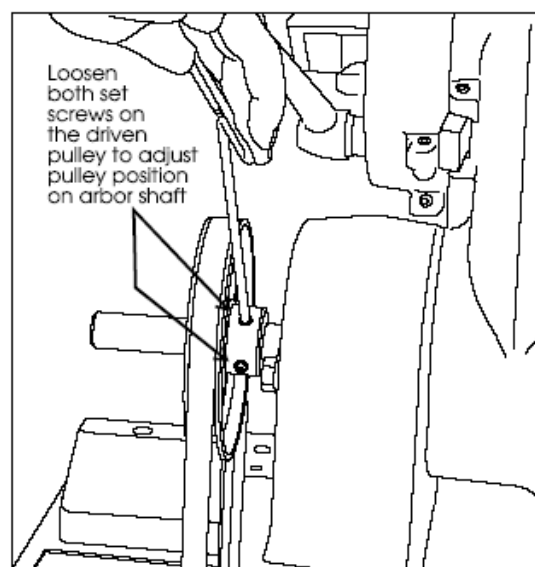

Figure 14: Loosening pulley set screws to allow the adjustment of pulley on arbor shaft.
17. Observe the alignment of the motor pulley and arbor pulley. If necessary, correct their alignment by shifting the motor slightly on its mount (which involves loosening and retightening the mounting bolts and checking tension) or by shifting the pulley slightly on the motor shaft (which involves loosening the motor pulley set screw and sliding the pulley into alignment) or by moving the arbor pulley slightly on its shaft (See Figure 14).